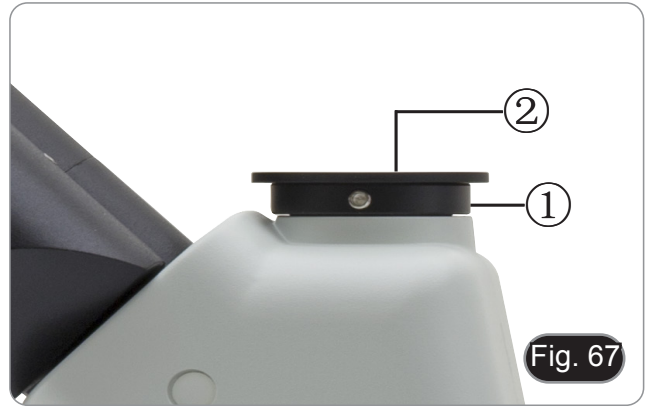

Fig. 66
8. Begin the observation by turning the knob on the DIC slider (8) to obtain a three-dimensional effect of the sample. (Fig. 66)